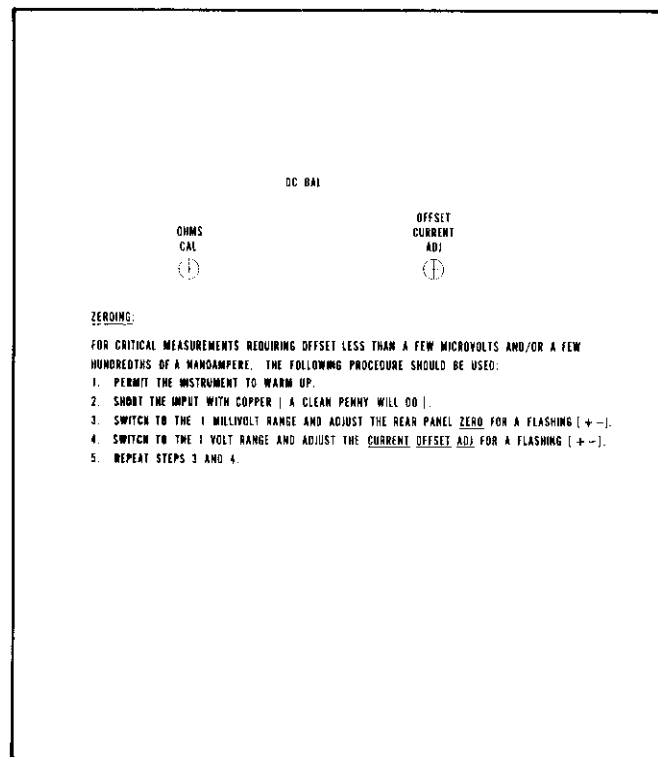

FIGURE 15. Chassis, Bottom View.
a. Offset Current Adjust (R733). This control is a screw driver adjustment accessible from the bottom cover as shown in Figure 15.
b. Ohms Cal Adjust (R738). This control is a screw driver adjustment accessible from the bottom cover as shown in Figure 15.
c. DC Balance Adjust (R722). This control is an adjustment accessible from the bottom cover as shown in Figure 15. Caution! Use an insulated screw driver to avoid contacting the chassis.